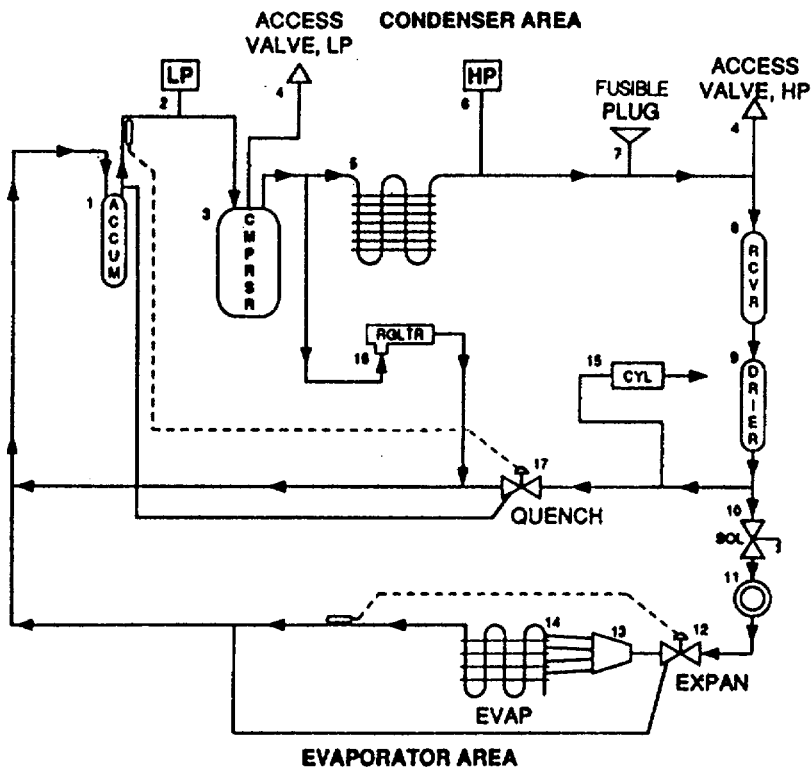

Figure 1-3. Refrigeration Schematic
- Compressor (3) Figure 1-3 starts.
- The compressor (3) takes cold, low pressure refrigerant gas and compresses it to a high temperature, high pressure gas. This gas flows to the condenser coil (5) and receiver (8).
- The condenser fan draws outside ambient air over and through the condenser coil (5). The high temperature, high pressure gas from the compressor (3) is cooled by the flow of air and is changed into a high pressure liquid.
- The cooler, high pressure liquid refrigerant flows through the dehydrator (filter drier) (9) and removes any moisture (water vapor) or dirt that may be carried by the liquid refrigerant and to the sight glass (11), which indicates the presence of moisture and quantity of refrigerant in the system.
- The liquid line solenoid valve (10) is controlled by the temperature control thermostat on the control panel. This valve will shut off the flow of refrigerant to the evaporator section when the temperature in the conditioned area reaches the set point.
- The expansion valve (12) controls the amount of pressure of liquid refrigerant to the restrictor (13) and evaporator coil (14). The expansion valve (12) senses the temperature and pressure of the refrigerant as it leaves the evaporator coil. By use of a sensing bulb and "external equalizer line" the valve constantly adjusts the flow of liquid refrigerant to the evaporator coil (14).
- As the liquid refrigerant leaves the expansion valve (12) it passes through a restrictor (13) and enters the evaporator coil (14). As the liquid enters the coil at a reduced pressure, the reduction in pressure and the warmer air being forced across the tubes of the coil cause the refrigerant to boil and change to a gas (vapor). The evaporator fan circulates the warm air from the conditioned space over and through the evaporator coil. Refrigerant absorbs heat when it changes from a liquid to a gas. As the air from the conditioned spaces comes in contact with the evaporator coil (14), the air is cooled.
- The low pressure refrigerant gas is then drawn back through the accumulator (1) to the compressor (3) and the cycle is repeated.
b. Bypass cycle. This unit has a bypass cycle which allows cooling operation at low cooling loads without cycling the compressor (3) on and off. In bypass, the refrigerant is piped from the discharge (high side) to the suction (low side) of the compressor, bypassing the evaporator coil (14).
- When the temperature control thermostat on the control panel senses that cooling conditions have reached the set point, it closes the liquid line solenoid valve (10) to shut off refrigerant flow to the evaporator coil (14).
- As the compressor suction pressure starts to drop, the pressure regulating valve (16) opens to allow hot gas from the compressor to bypass the condenser (5) and evaporator (14).